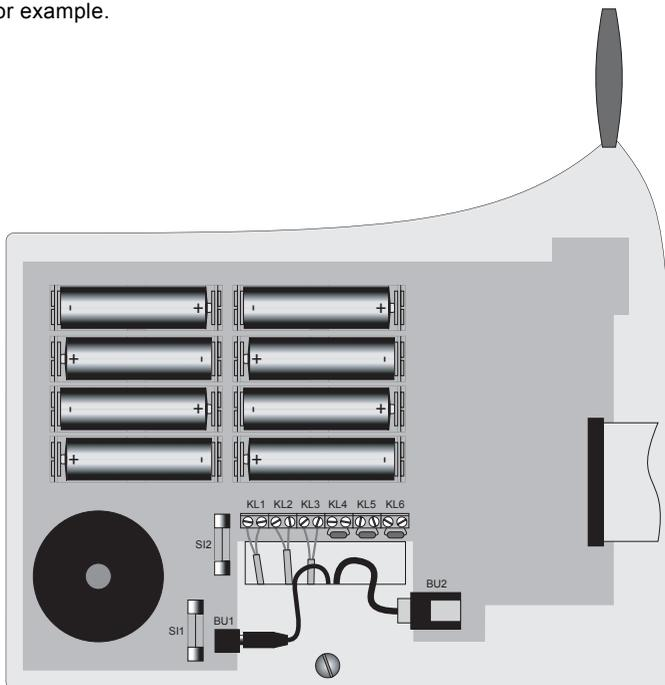

Figure 18
- Insert 8 AA batteries in the battery compartment for the emergency power supply, observing the correct polarity (observe plus/+ and minus/-). The polarity can be seen in each battery compartment and there is a small inscription on the circuit board (also see figure 18).